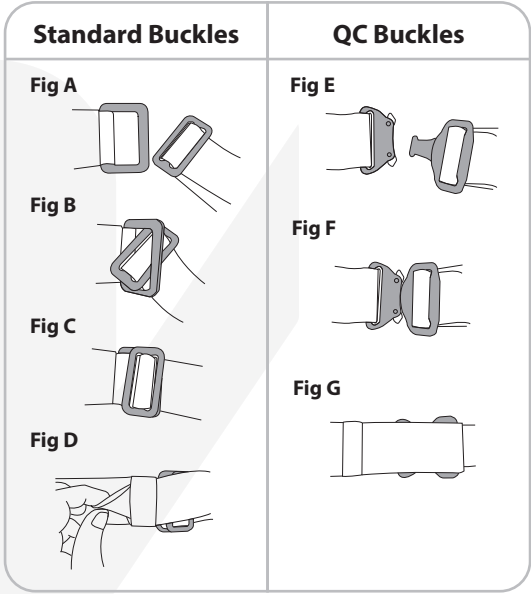

Fig 1
1. Unpack the harness and lay it out so that all buckles are undone and there are no twists in the webbing. (Fig 1)